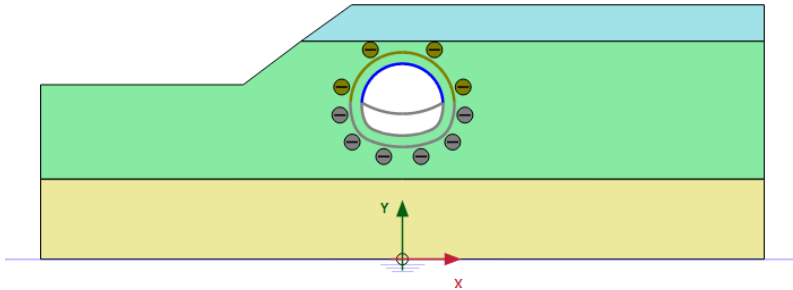

Figure 6.8 Configuration of Phase 3
- In the *Staged construction* mode deactivate the lower cluster (invert) and the temporary lining in the middle of the tunnel (Figure 6.8).